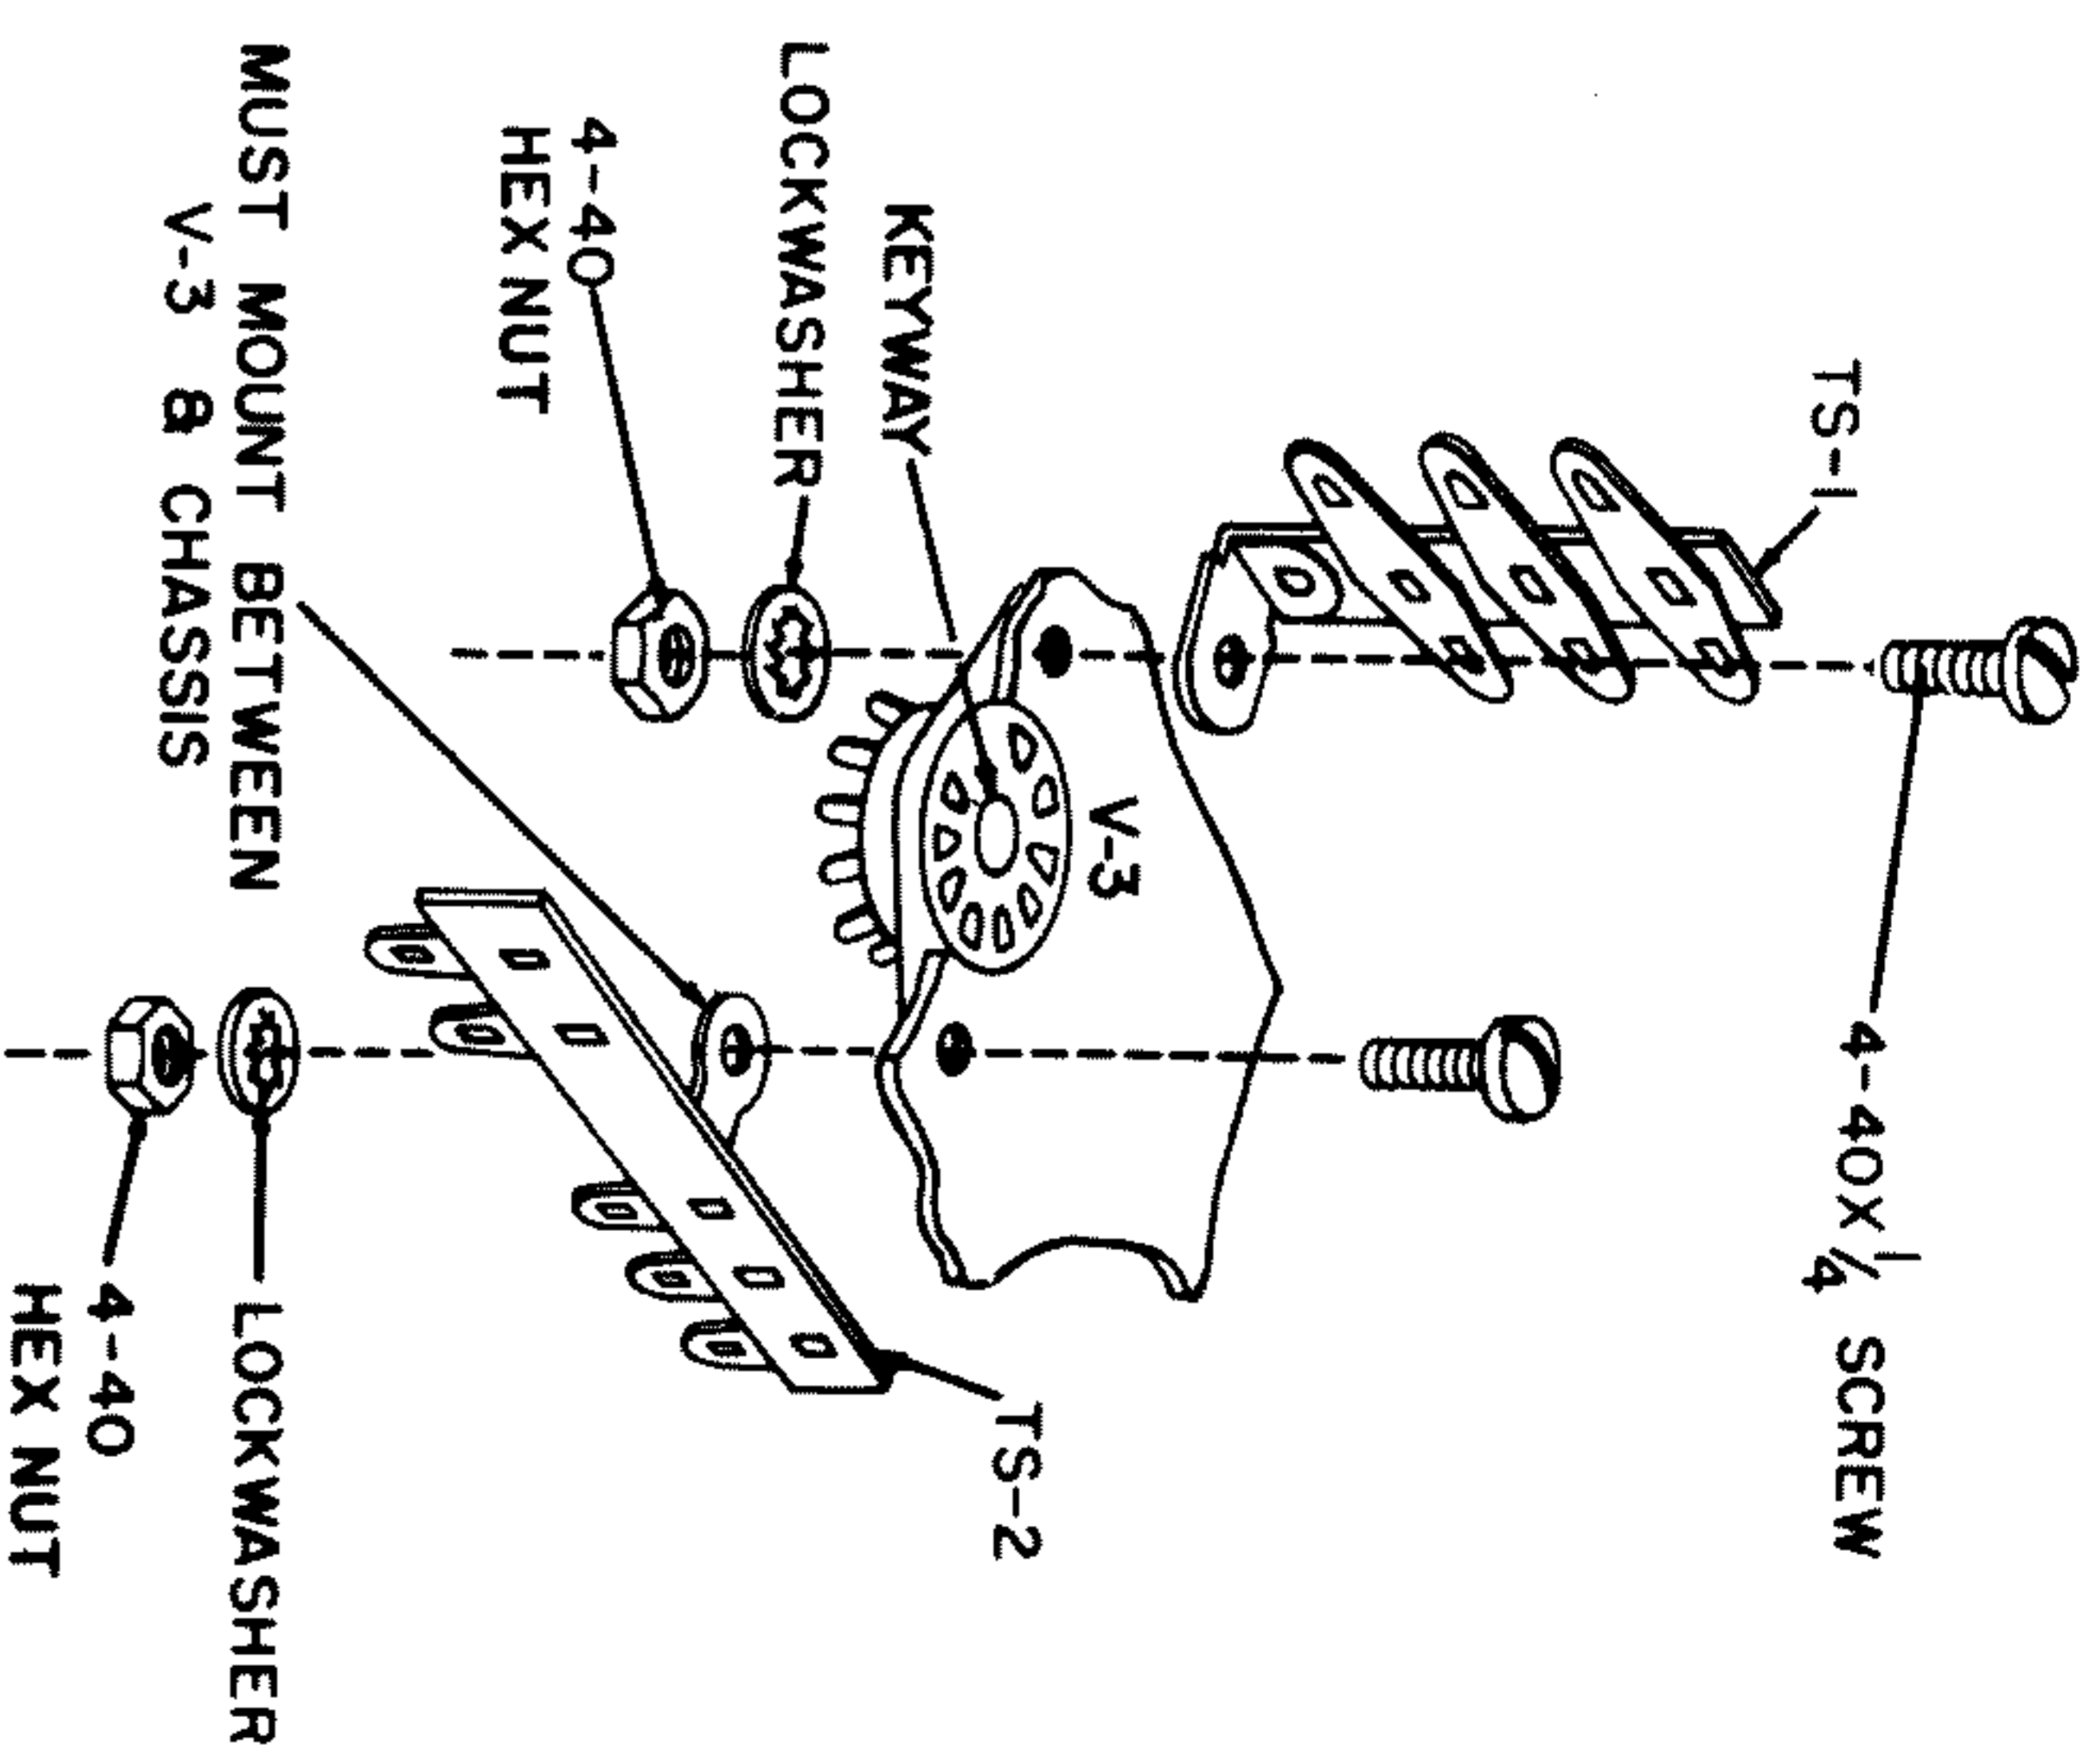

FIGURE 4
- 9-pin tube socket for V3; TS-1, 3-terminal strip; TS-2, 5-terminal strip. Position the tube socket with the keyway as shown. Position TS-2 between the tube socket and chassis. Fasten these parts with a 4-40  $\times$   $\frac{1}{4}$ " screw, lockwasher, and nut. See Figure 4. Mount TS-1 to the top of the chassis. Insert a 4-40  $\times$   $\frac{1}{4}$ " screw through the terminal strip and other side of tube socket. Fasten with a #4 lockwasher and nut. *TS-1 & TS-2 are to be mounted between the chassis and rear panel.*